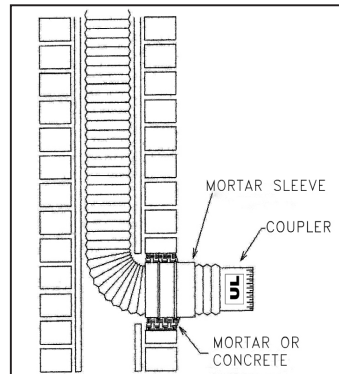

Figure 7
- 5.2 Pull the minimum length of liner(4-6") that allows for a connection to be made.Fill in any gaps between the chimney opening and MORTAR SLEEVE with mortar or cement. See Figure 7.This Mortar Sleeve will position & support the liner once the mortar hardens around the sleeve.